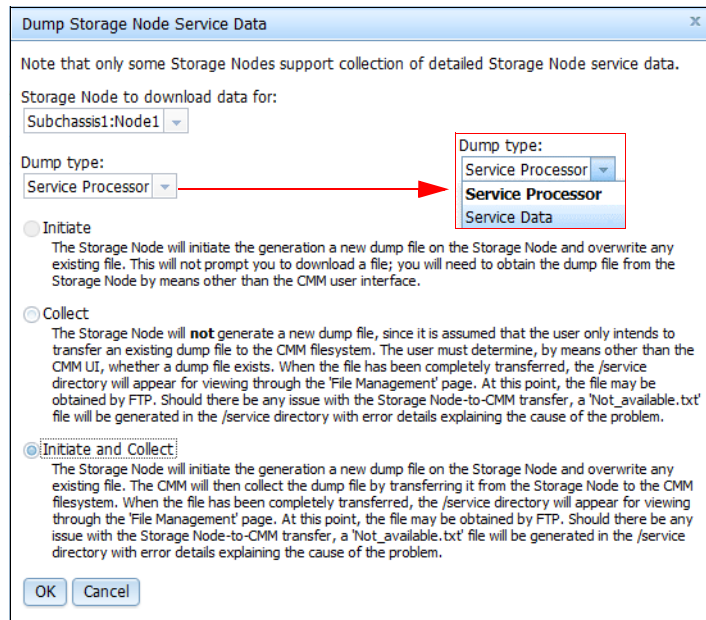

Figure 3-36 Initiate and Collect
- In our case, we click on the drop-down menu *Dump Type*: then select *Service Data*. Choose the option *Initiate and Collect*, which allows storage node to initiate the generation of a new dump file on the compute node and overwrite any existing file. The CMM will then collect the dump file by transferring it from the node to the CMM file system. This is shown in Figure 3-36 on page 107.